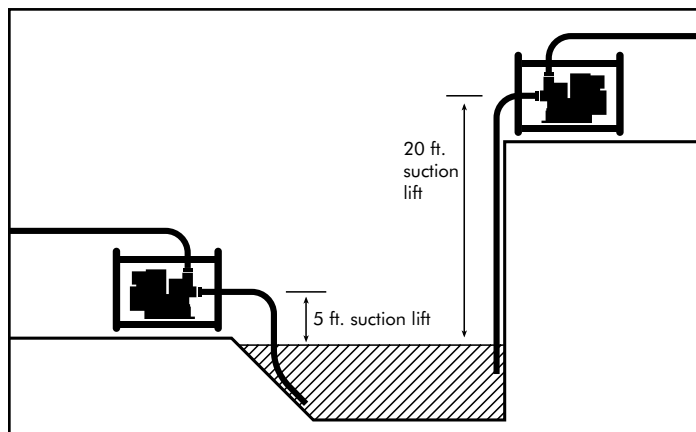

Figure 2
1. The pump should be placed as close as possible to the liquid being pumped. A pump with 20 foot suction lift will not remove water as quickly as a pump with 5 foot suction lift. **SEE FIGURE 2.**